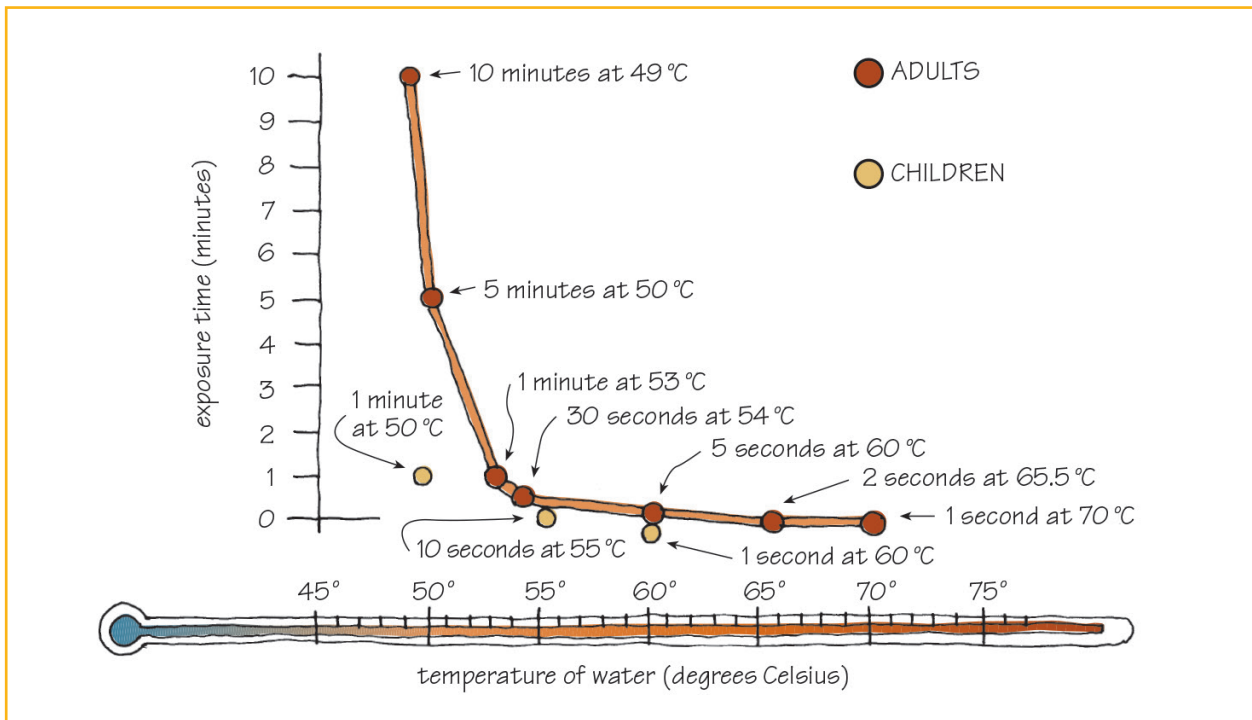

Figure 1. Time of exposure and water temperature at which full-thickness skin scalds occur.
**3.3.1** As hot water temperature increases, it takes less time for serious burns to occur for skin in contact with the water (Figure 1).